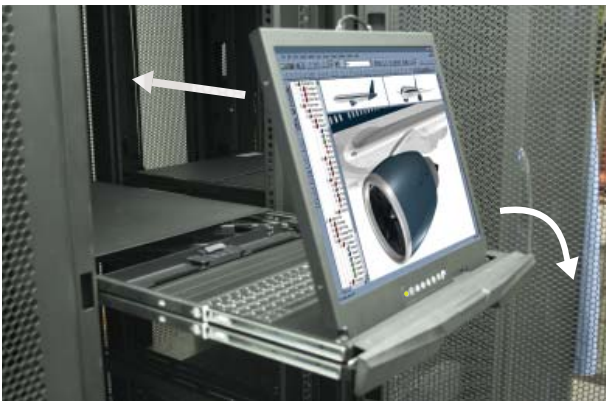

Figure 3. Flip the front panel up and pull the upper LCD drawer out of the rack.
- Flip the front panel up. Gently push the upper LCD drawer back into the rack as shown in Figure 3.